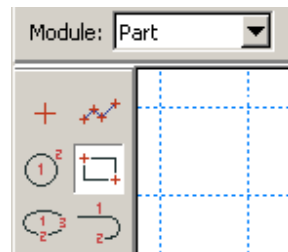

Figure W1-5 Rectangle sketch tool.
3. To sketch the profile of the cantilever beam, you need to select the rectangle drawing tool, as shown in Figure W1-5.